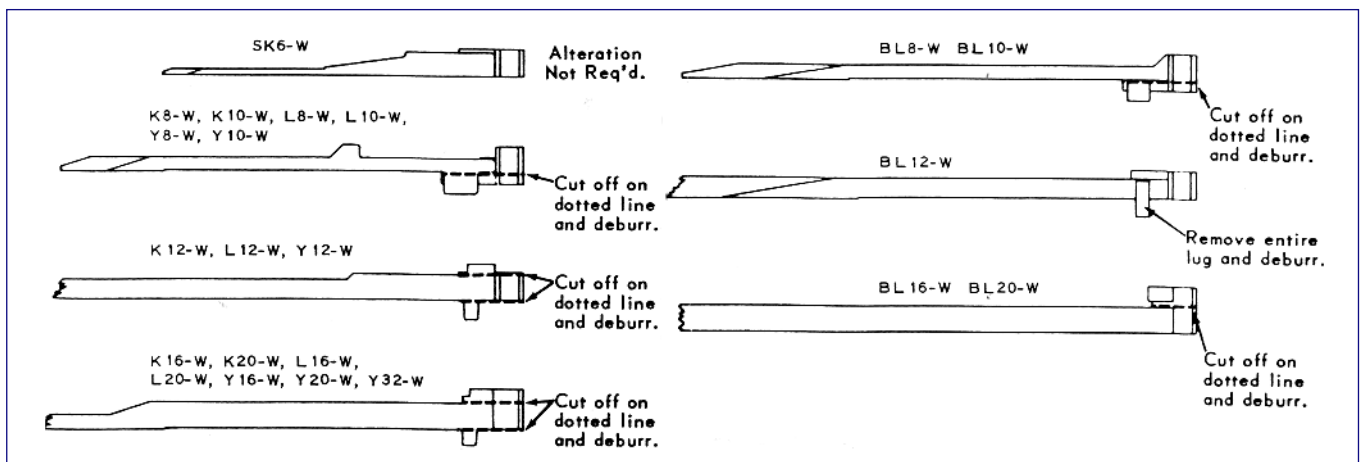

FIGURE 1, Wedges
2. Mandrels used with P-180 Head & Driver Set are supplied with a standard Wedge for use in Sunnen Honing Machine. To use wedges not supplied, alter it as shown (see Figure 1).